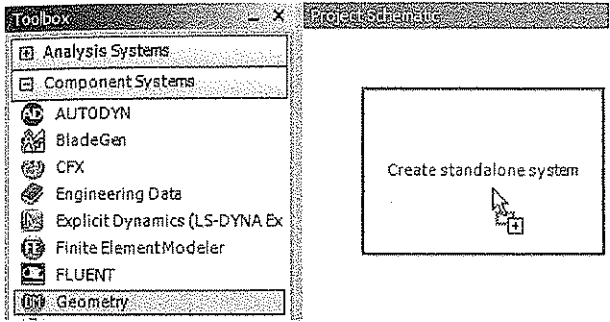

Figure 5-4 Adding the component system to the Project Schematic window
- 4. Drag the cursor over this rectangular boundary; the green color will change to red, refer to Figure 5-4. Next, drop the component system over this rectangular boundary; the **Geometry** component system is added to the **Project Schematic** window.